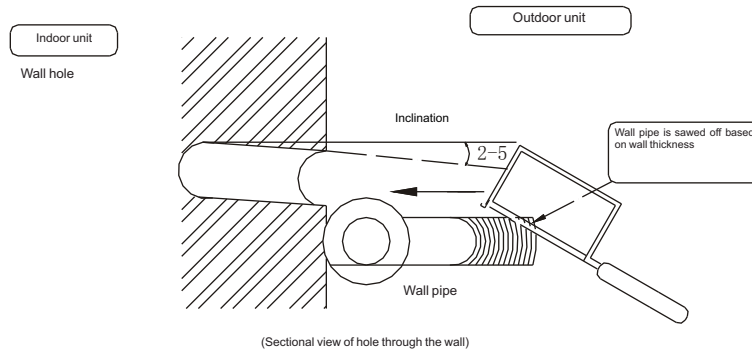

Figure 16
2) Through the wall: upon the wall penetration, the pipeline for indoor and outdoor unit must be equipped with wall cannula, to avoid damage of pipes and wires, as shown in Figure 16: